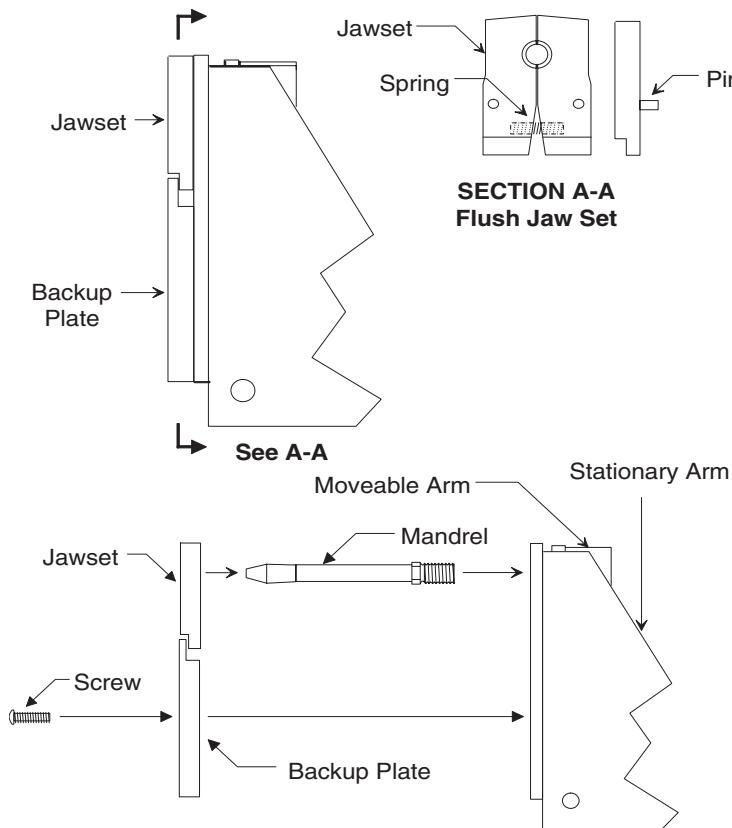

Figure 4-03 — Offset Adapter Jawset (guard not shown)
- 4.6.2.6 Remove or loosen the two screws holding the nosecap backup plate onto the offset adapter. Ref. Fig. 4-03.